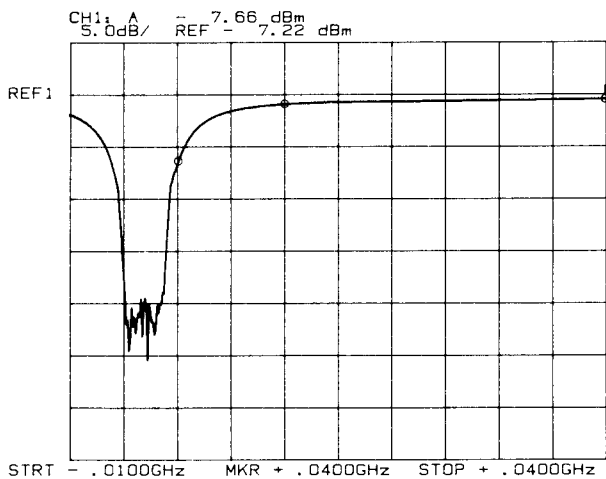

Figure 4-2. Trace Before Adjustment
3. On the HP 8756A Channel 2, press **[SHIFT] [MEAS RATIO]** to turn Channel 2 off. On Channel 1, press **[MEAS PWR]** until the **A** LED is on. Press **[REF]** until the **POSN** LED is on, and use the step keys or knob to move the **REF POS** one line down from the top CRT graticule. Press **[SHIFT] [SCALE]**. A response dip similar to Figure 4-2 should be visible on the display. This dip is formed because the sweeper is a hetrodyne source (in Band 1), sweeping through low frequencies where it is incapable of generating output power. The middle of this response dip is the "ZERO FREQUENCY" point.